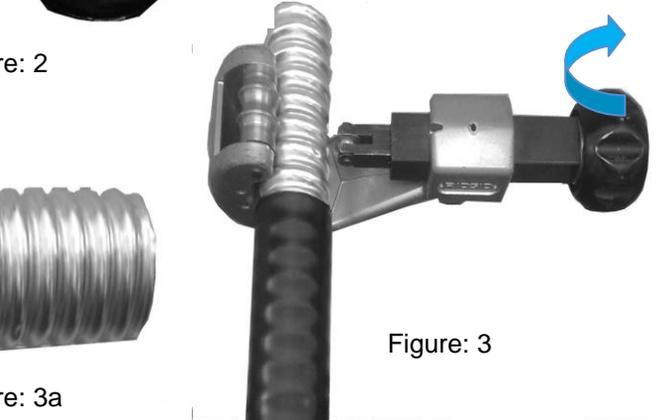

Figure: 3
- 10) Slowly spin tool around the cable while rotating the knob continue until the aluminum armor cut through. As shown in figure: 3, 3a